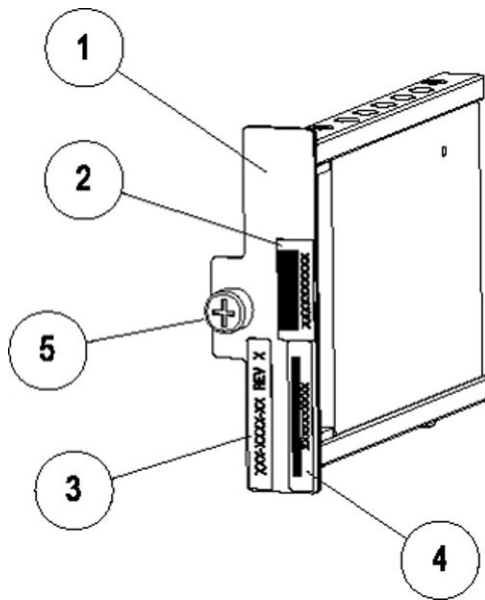

Figure 2: Drive Module Label Locations
- Serial Number Label (1)
- CLEI Label (2)
- Part Number Label (3)
- Revision Label (4)
- Find the part number information on the drive module. See Figure 2: Drive Module Label Locations for illustration.